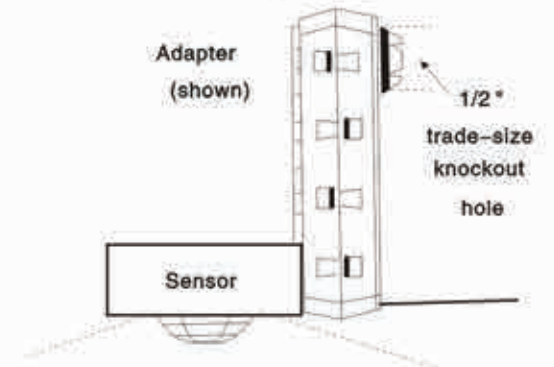

Fig 4B
- Punch out the keyed hole of the Adapter half body to be mounted on the luminaire or electrical box. (refer to Fig 4B)
- Punch out the non-keyed hole on the other Adapter body half and insert the wires and threaded nipple of the Sensor into the hole. Thread the provided lock nut on the nipple and the tighten positioning sensor towards the area to be motioned (refer to Figure4B)